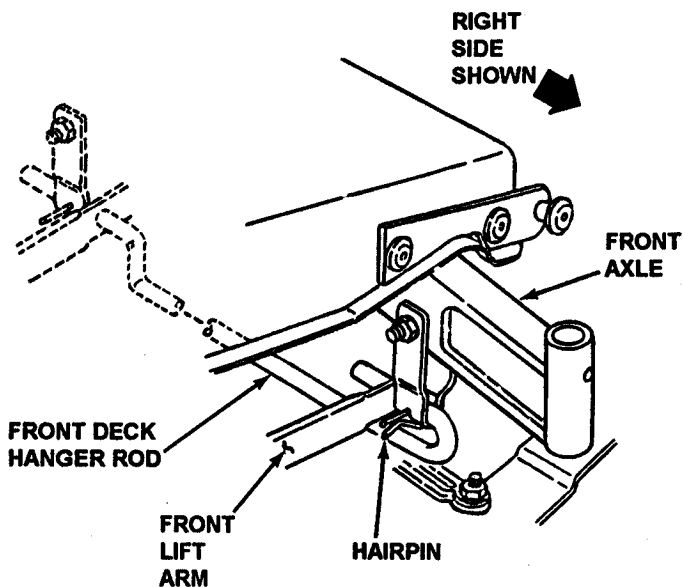

FIGURE 31
4. Remove both Hairpins from the Front Deck Hanger Rod. See Figure 31.